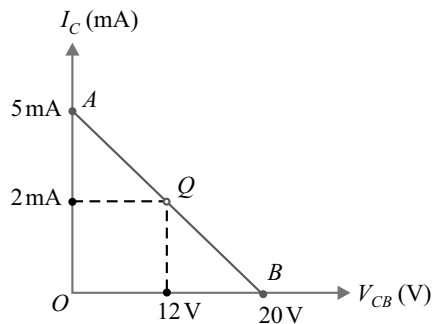

Fig. 6.48
As  $V_{CC}$  and  $R_C$  are constants, therefore, eq. (i) is the equation of a straight line. This is called d.c. load line of the common base transistor circuit and can be represented on the  $I_C - V_{CB}$  axes as shown in Fig. 6.48. Note that the slope of the d.c. load line is  $-1/R_C$  and is measured in siemens (S). To draw the d.c. load line on  $I_C - V_{CB}$  axes, we need two end points. These can be located as under :
When  $I_C = 0$ , then,  $V_{CB} = V_{CC} = 20\text{V}$  ... from eq. (i) above. This locates the first end point  $B(OB = V_{CC} = 20\text{V})$  of the d.c. load line on the  $V_{CB}$  axis as shown in Fig. 6.48.
When  $V_{CB} = 0$ , then,  $I_C = V_{CC}/R_C = 20\text{V}/4\text{k}\Omega = 5\text{mA}$  ... from eq. (i). This locates the second end point  $A(OA = V_{CC}/R_C = 5\text{mA})$  of the d.c. load line on the  $I_C$  axis as shown in Fig. 6.48. By joining these two points, the d.c. load line  $AB$  of the circuit is constructed.
Therefore, the operating point ( $Q$ ) of the circuit is **12 V, 2 mA** as shown in Fig. 6.48.